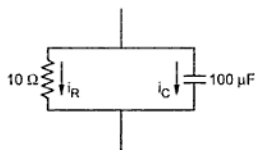

Fig. 5.99
26. In parallel RC circuit shown in the Fig. 5.99,